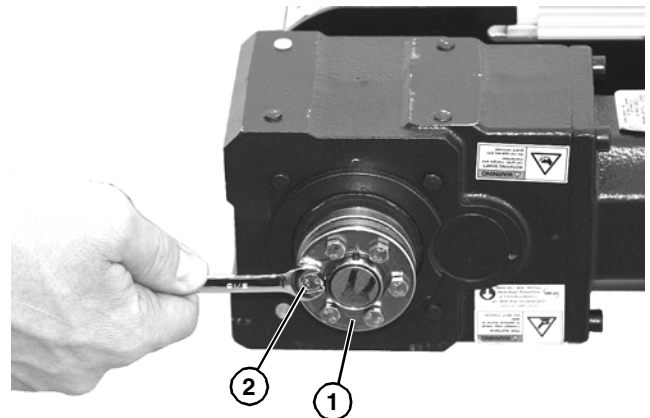

Figure 59
2. Remove cover from assembly (**Figure 59, item 1**).
3. Loosen six hex head screws (**Figure 59, item 2**) securing assembly onto shaft.